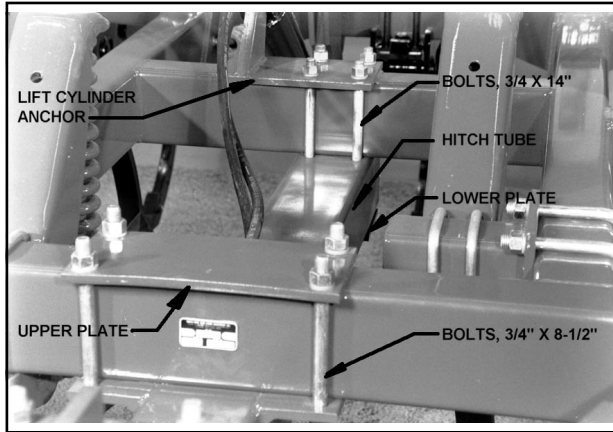

Figure 3-2 - Attaching Hitch to Frame
- 3-4.2** Determine center of main frame and insert hitch tube under frame (**See Figure 3-2**).